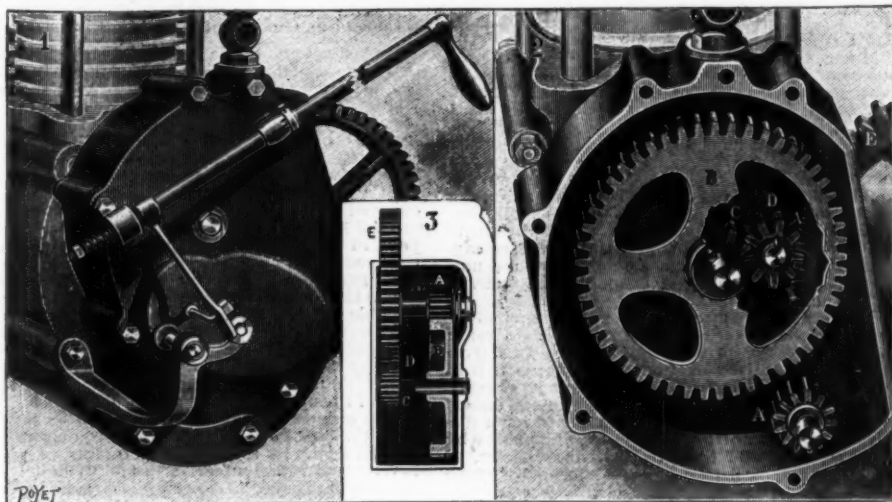

FIG. 1.—COUGET SYSTEM OF CHANGE OF SPEED.
M. Couget's apparatus (Fig. 1) consists of a system of gear wheels interposed between the shaft of the motor and that of the differential gear. The entire mechanism is inclosed in an aluminum casing (Fig. 1, No. 1), which protects it against dust and supports the axes of the gear wheels.
In the normal position that corresponds to a high speed, the shaft of the motor (Fig. 1, No. 2) actuates the wheel, E, of the differential gear through the in-
In the position corresponding to the low speed (which is that represented in Fig. 1, No. 3), the pinion, A, is no longer in gear, and it is the pinion, D, that actuates the differential gearing, E, the former pinion receiving its motion through the pinion, C.
In Fig. 1, No. 1, will be seen the lever that permits of shifting the pinions, A and D, and of making them engage alternately according to the speed to be obtained. In the variation represented in No. 3 of the